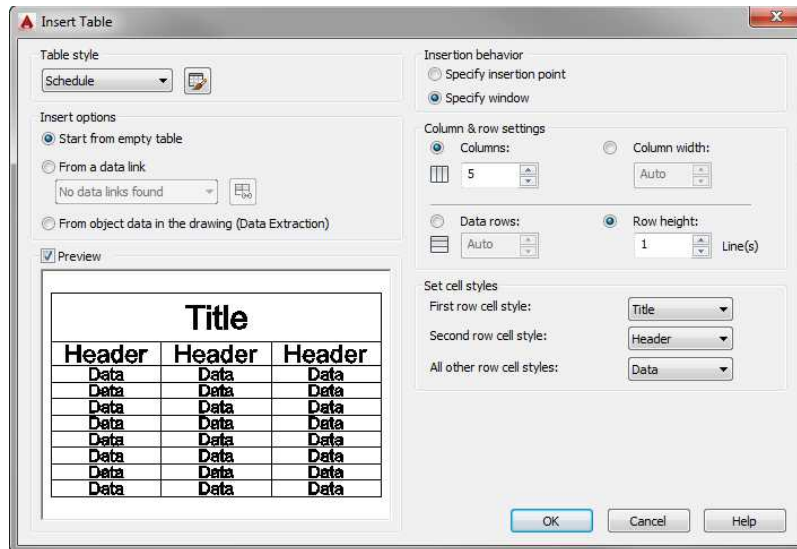

FIGURE 9.64: The Insert Table dialog box
3. In the Annotate tab’s Tables panel, click the Table button to open the Insert Table dialog box (see Figure 9.64).